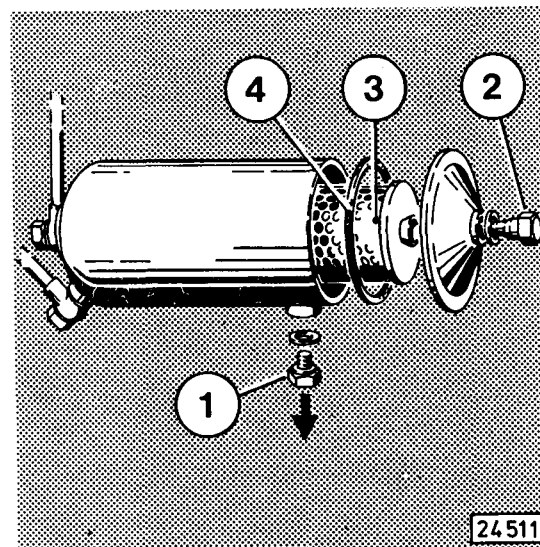

Fig. 50a
- Drain oil after removing plug 1 (Fig. 50a).